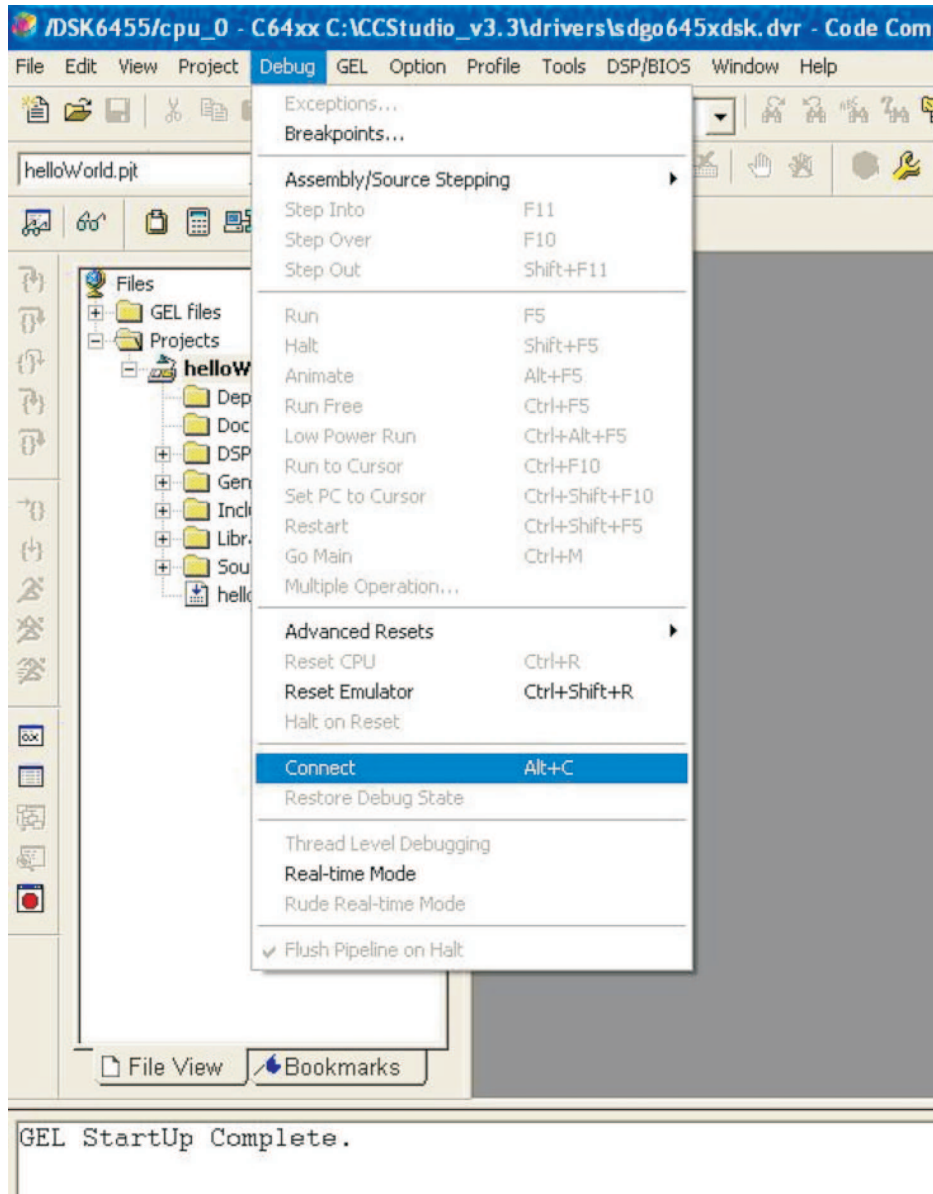

Figure 4. DSK6455 Connect Procedure
11. Connect to the debugger on the DSK6455 by either entering *Alt + C* or by clicking on Debug → Connect if not already connected, as shown in Figure 4.